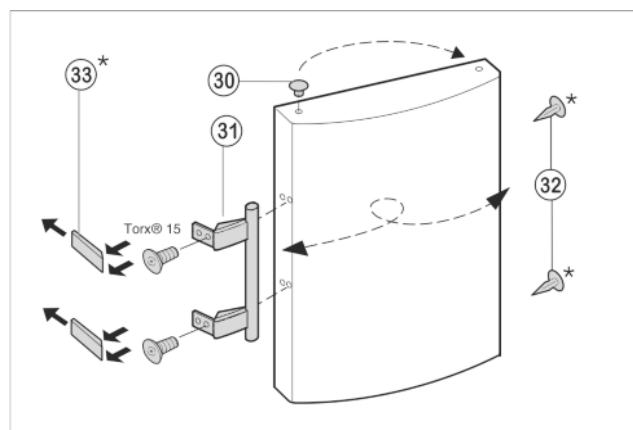

Fig. 9
- Lift the stopper Fig. 9 (30) out of the door bearing bush and transfer it.
- Detach door handle Fig. 9 (31), stoppers Fig. 9 (32) and pressure plates Fig. 9 (33) plates and transfer to the opposite side